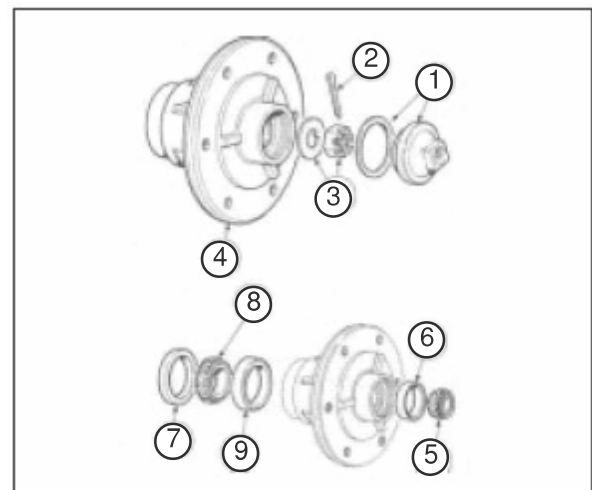

Fig 4
7. Remove the hub assy. complete with bearing and seal from the spindle assy. (Item 4 in Fig.4).
8. Remove the outer bearing cone (Item 5 in Fig.4).
9. Tap out the outer bearing cup (Item 6 in Fig.4).
10. Remove the seal (Item 7 in Fig.4).
11. Drive out the inner bearing cone (Item 8 in Fig.4).
12. Drive out the inner bearing cup (Item 9 in Fig.4).